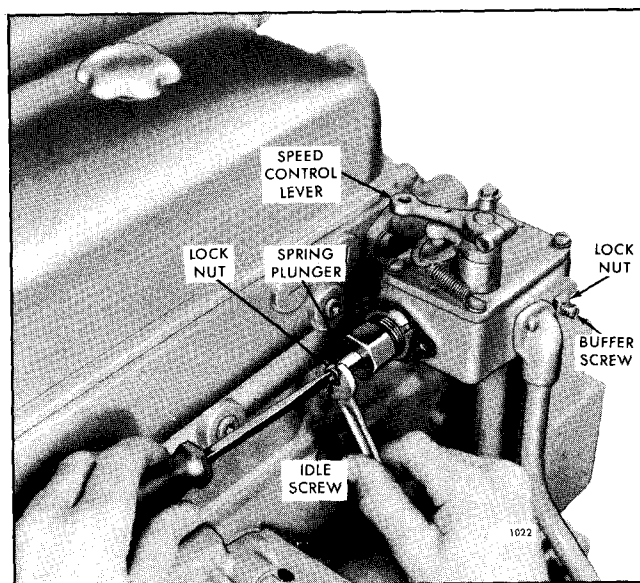

Fig. 8 - Adjusting Engine Idle Speed
3. Start the engine and loosen the idle speed adjusting screw locknut. Then adjust the idle screw to obtain the desired engine idle speed (Fig. 8). Hold the screw and tighten the locknut to hold the adjustment.
2. Backout the buffer screw until it extends approximately 5/8" from the locknut (Fig. 8).
2. With the engine running, at normal operating temperature and with the buffer screw backed out to avoid contact with the differential lever, turn the idle speed adjusting screw until the engine operates at approximately 15 rpm below the recommended idle speed (Fig. 8).
1. With the engine running at normal operating temperature, turn the buffer screw in so it contacts the differential lever as lightly as possible and still eliminates engine roll (Fig. 8).